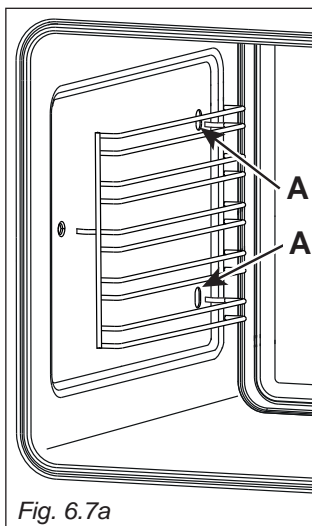

Fig. 6.7a
- Slide the rear prongs of the side rack into the holes "A" at the rear of the oven (fig. 6.7a).
- Fit the side racks onto the oven walls (figs. 6.7a, 6.7b).
- Remove the side racks (figs. 6.7a, 6.7b).